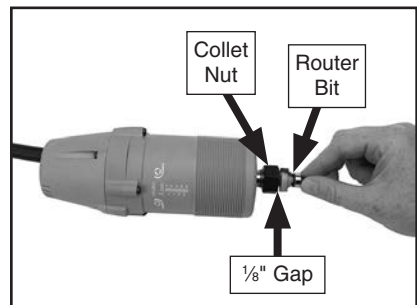

Figure 10. Inserting router bit.
4. Insert router bit into collet (see **Figure 10**), leaving approximately 1/8" gap between bit and collet nut. Securely tighten collet with wrenches.